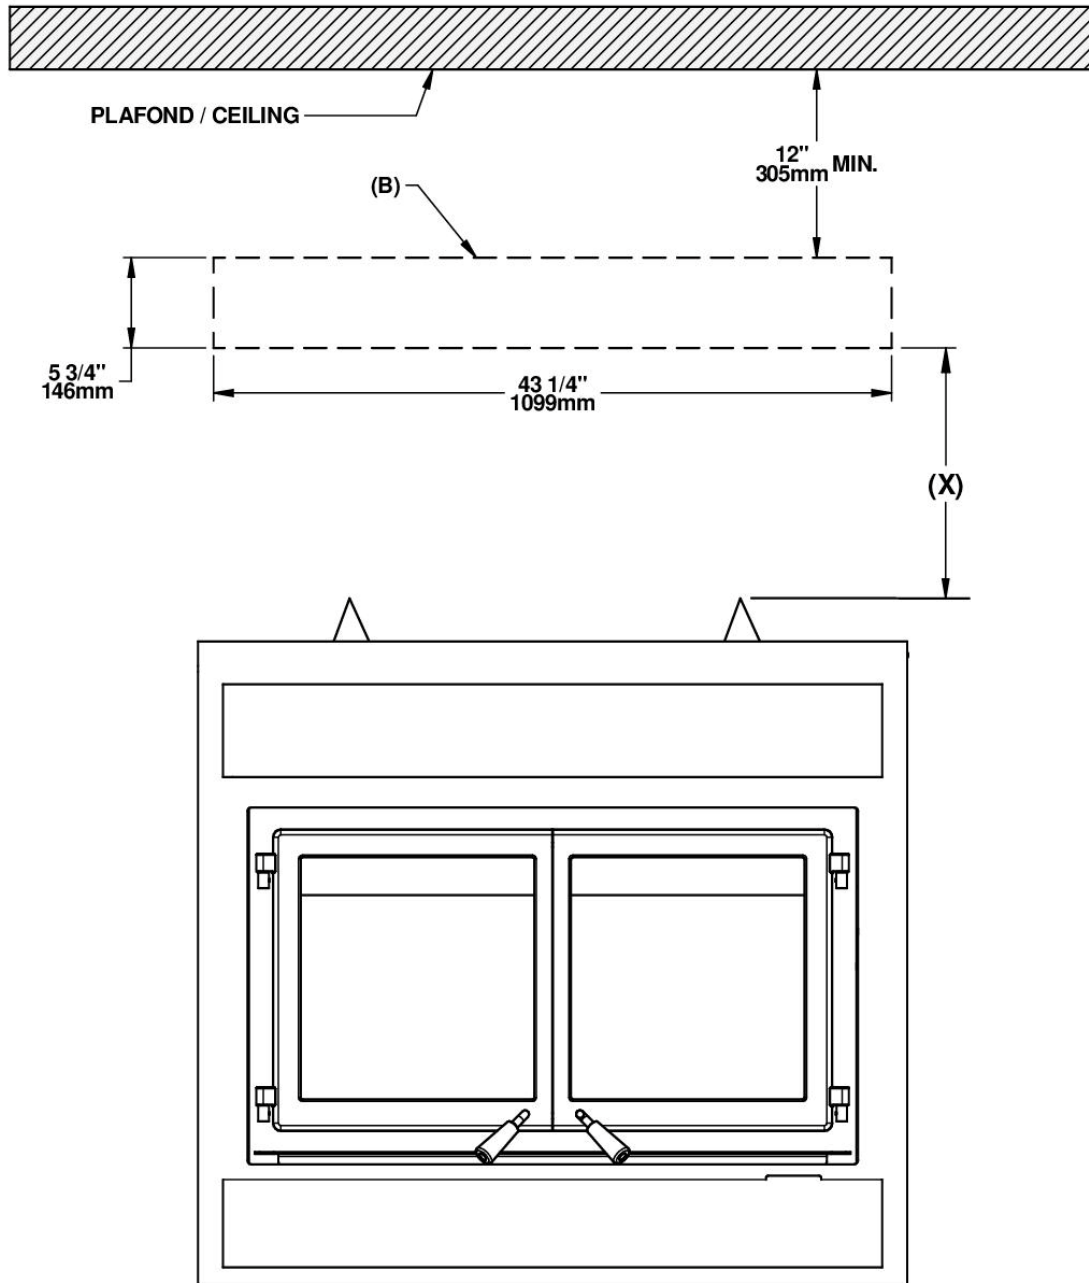

Figure 1 : Grill support location
1. Build a non-combustible frame using the dimensions shown on Figure 1.